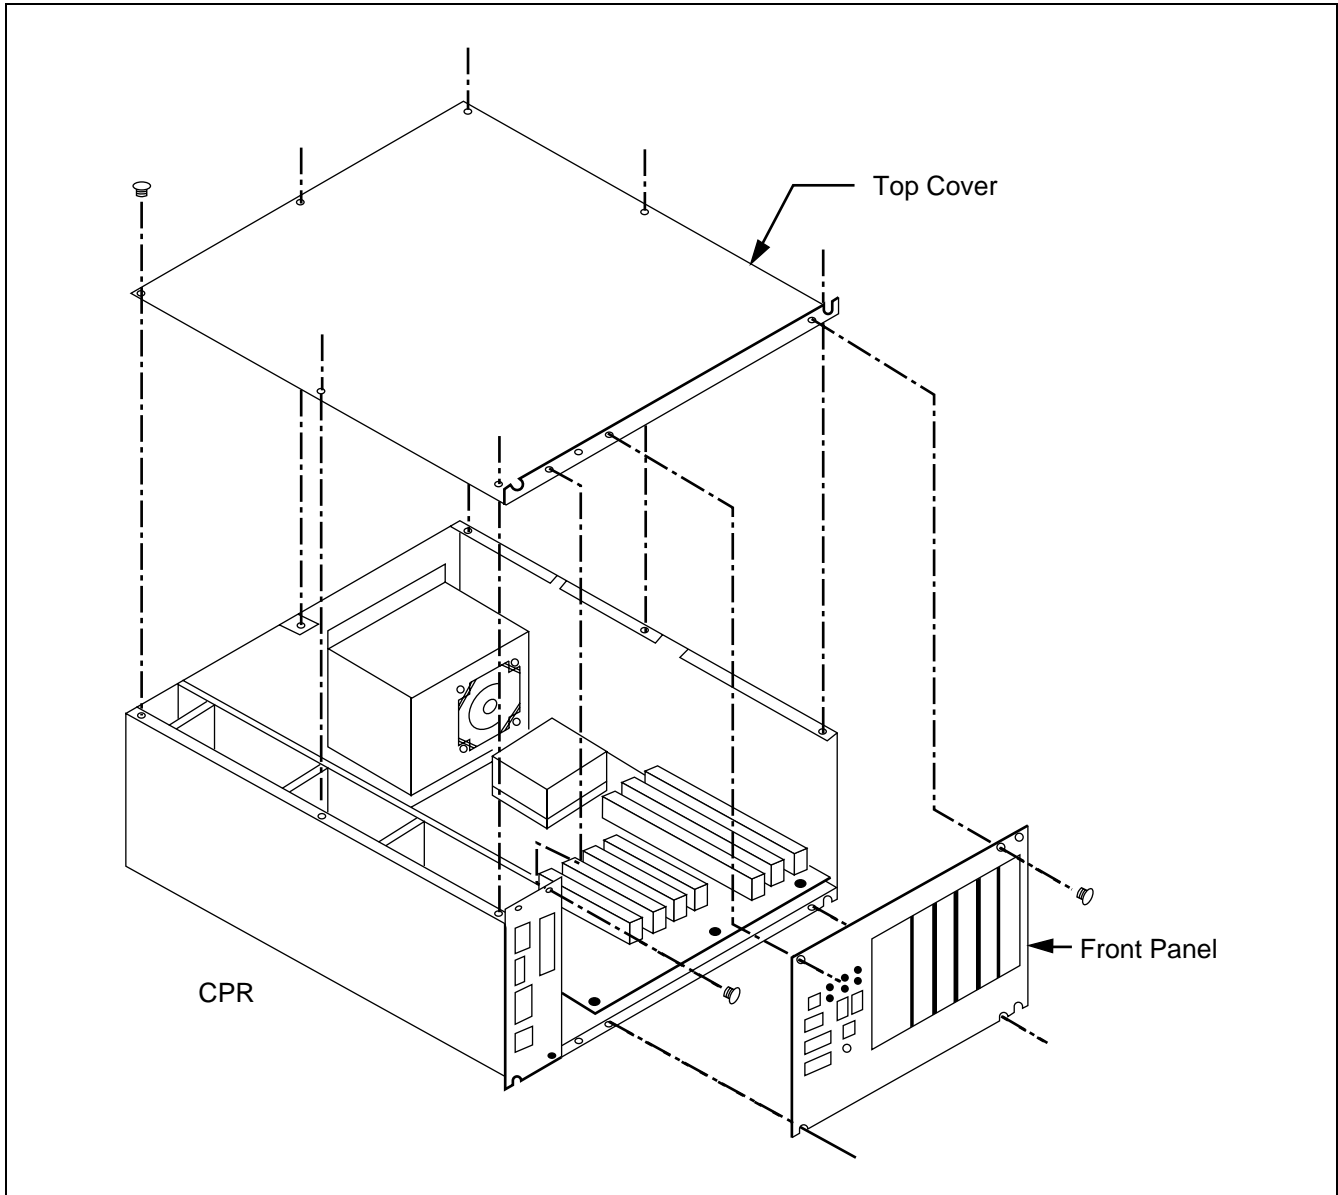

Figure 4-9 Removal of Front Panel and Top Cover From CPR
- (1) Detach the front panel of the new CPR by using the Phillips screwdriver to remove the four screws, as shown in Figure 4-9. Then, lift the top cover by removing the eight screws.